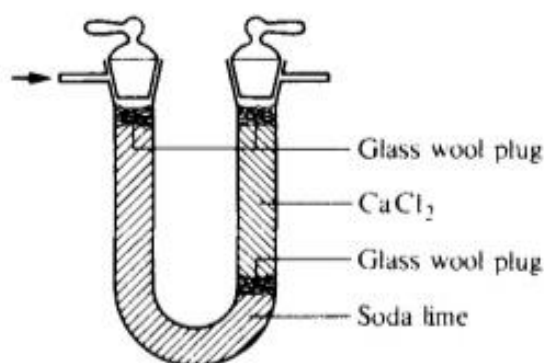

Fig.1. The absorption U-tube as used in this experiment.
The aim of this exercise is to determine the content of carbonates (calculated as calcium carbonate) in a sample of mineral. The sample is decomposed evolving stoichiometric amount of CO_2 which is next absorbed in the U-tube as in the Figure 1. The increase in mass of the U-tube after reaction is attributed to the mass of CO_2 absorbed in it.
1. Fill the dropping funnel (B) and the bubbler (D) with phosphoric(V) acid, the guard U-tube (C) with NaOH. Two U-tubes (E and H) should be filled with CaCl_2 (prepared by the laboratory staff in prior to use), and two others (F and G) as shown in Fig. 1. Fit up the apparatus shown in Figure below, but without U-tubes F and G. Ask your teacher for details of connections.